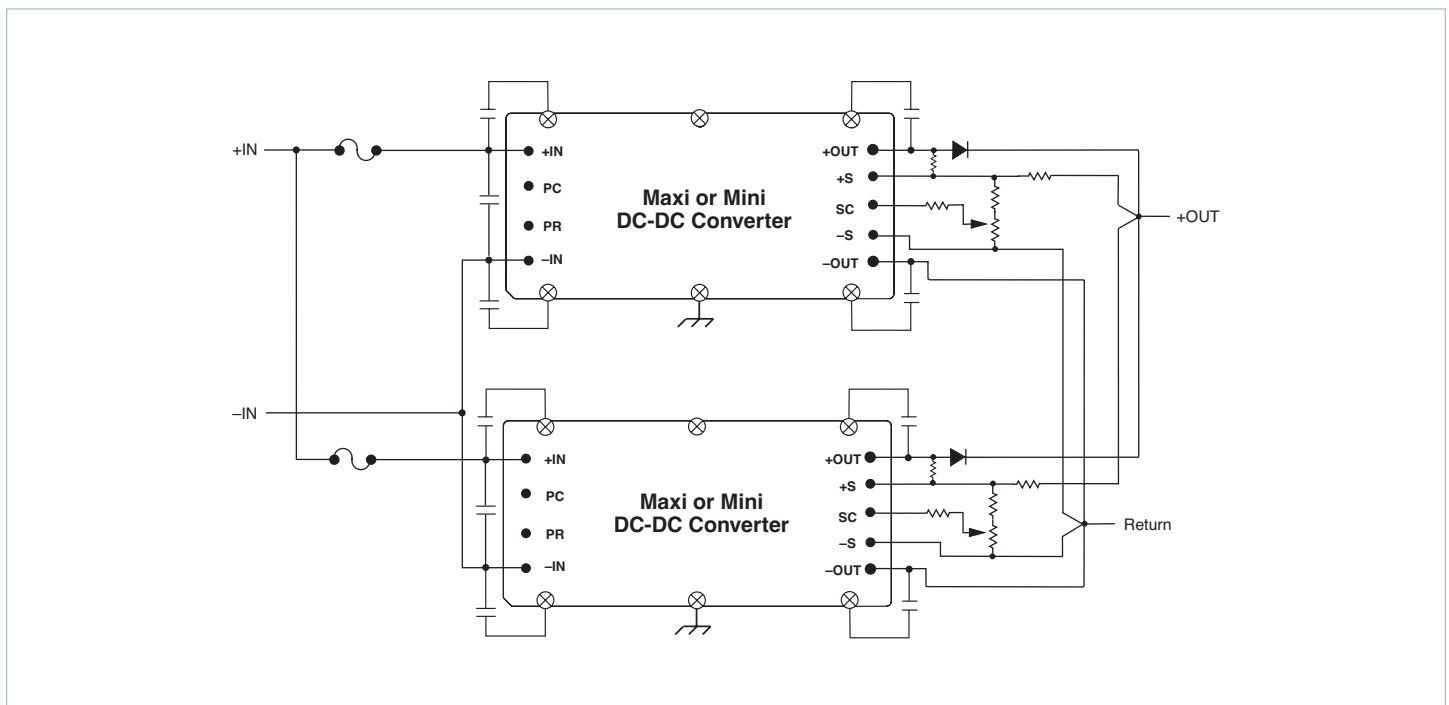

Figure 5.1 — The droop-share method artificially increases the output impedance to force the currents to be equal
**Droop Share:** The droop-share method, shown in Figure 5.1, increases the output impedance to force the currents to be equal. It is accomplished by an error signal, which is interjected into the control loop of the converter causing the output voltage to operate as a function of load current. As load current increases, output voltage decreases. All of the modules will have approximately the same amount of current because they are all being summed into one node. If one supply is delivering more current than another supply, its output voltage will be forced down a little so that it will be delivering equal current for an equal voltage out of that summing node. Figure 5.1 illustrates a simple implementation of this scheme where the voltage dropped across the ORing diode, being proportional to current, is used to adjust the output voltage of the associated converter.
ORing diodes may be inserted in series with the +Output of each module in a N+1 array to provide output fault tolerance (Figure 5.1). They are important in a redundant power system to maintain fault isolation. Without them, a short-circuit failure in the output of one converter could bring down the entire array. As well, fusing the input of each converter prevents a converter input short from compromising the entire array.
Current sharing, required to ensure system reliability, can be implemented by a multiplicity of methods. Figure 5.1, shown earlier as an example of the droop-share method, is also an example of N+1 redundancy using ORing diodes.